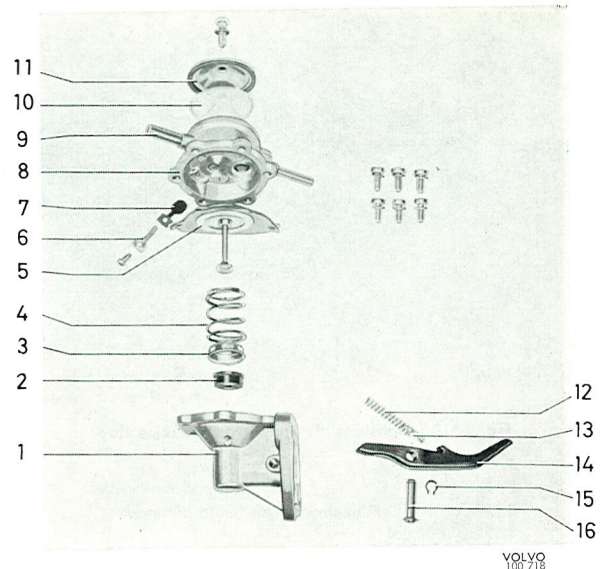

Fig. 2-120. Fuel pump, Pierburg
2. Remove a circlip (15, Fig. 2-120) from the lever shaft (16). Press out the shaft. Pull out the lever (14) and the spring (12).
3. Remove the diaphragm with spring (4), the guide (3) and the rubber seal (2). The spring can be removed after the rubber seal has been levered over the nylon washer.
4. Remove the screw on the underside of the lower section, take out the stop arm (6) and the spring valve (7). The inlet valve cannot be removed. Check the parts for wear.